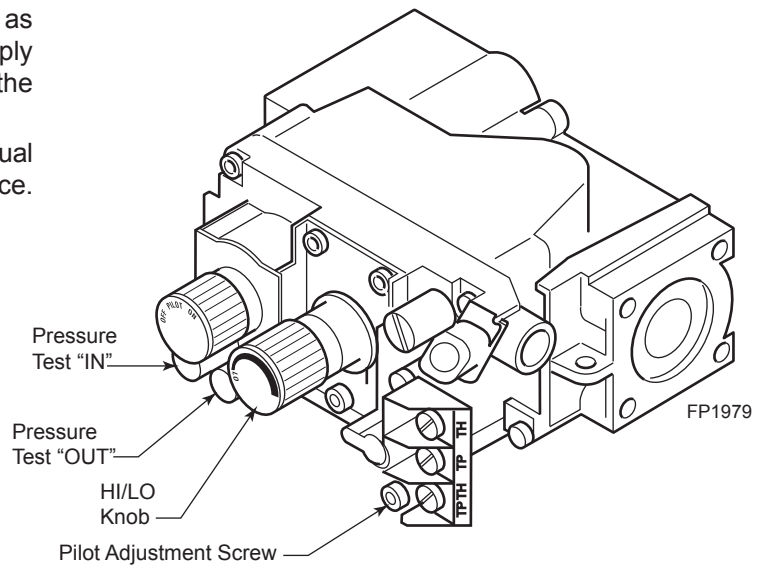

Figure 38 -
5. To check gas pressures at valve, turn captured screw counter clockwise 2 or 3 turns and then place tubing to pressure gauge over test point. Turn unit to high. *Figure 38.* After taking pressure reading, be sure and turn captured screw clockwise firmly to reseal. Do not over torque. Check test points for gas leaks.